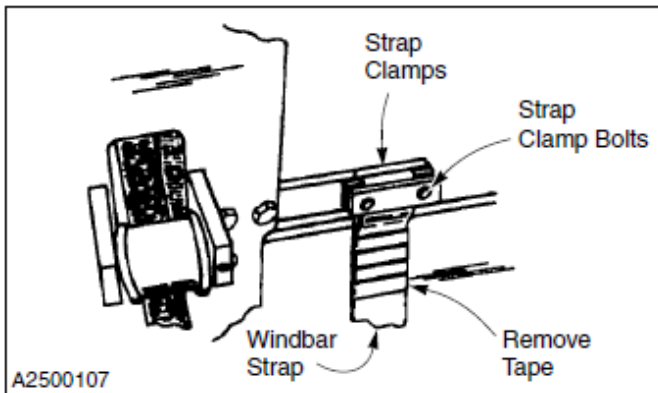

Figure 64
5. To adjust the front windbar, loosen the front strap clamp bolts and move the windbar up and down, as required, by moving the strap up or down through the clamps. Retighten the strap clamp bolts when the windbar is in the correct position. (See Figure 64)